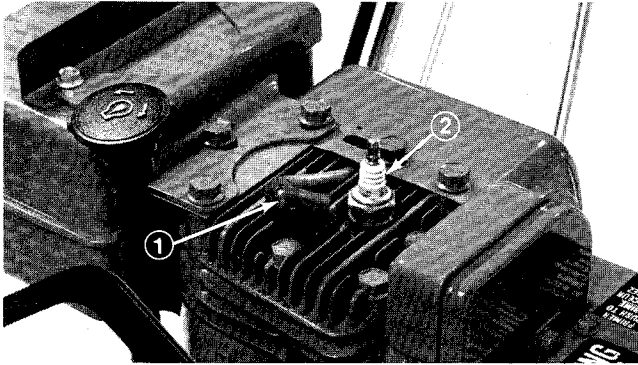

Figure 38
2. Pull high tension wire off spark plug (Fig. 38), and remove plug from cylinder head.
4. Push the high tension wire onto spark plug (Fig. 38).